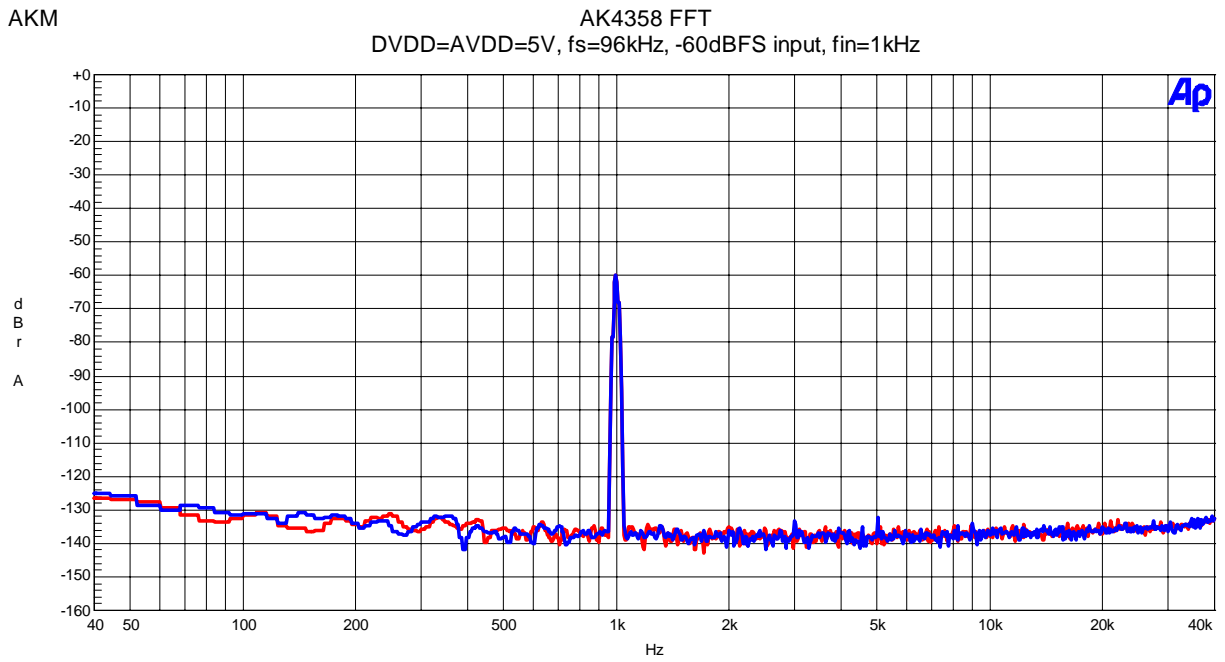

Figure 11. FFT (fin=1kHz, -60dBFS input)
- Figure 11. FFT (1kHz, -60dBFS input)